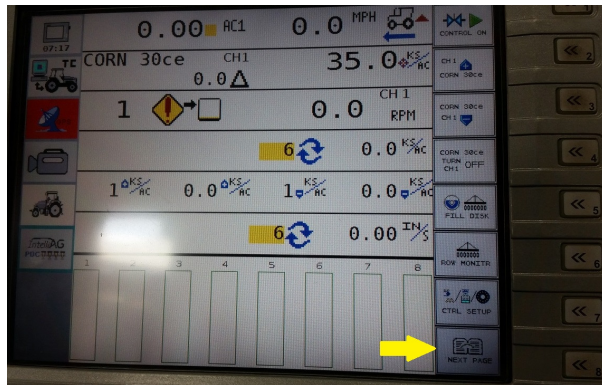

Figure 67
Step 2. Push **Next Page**. (Figure 67)